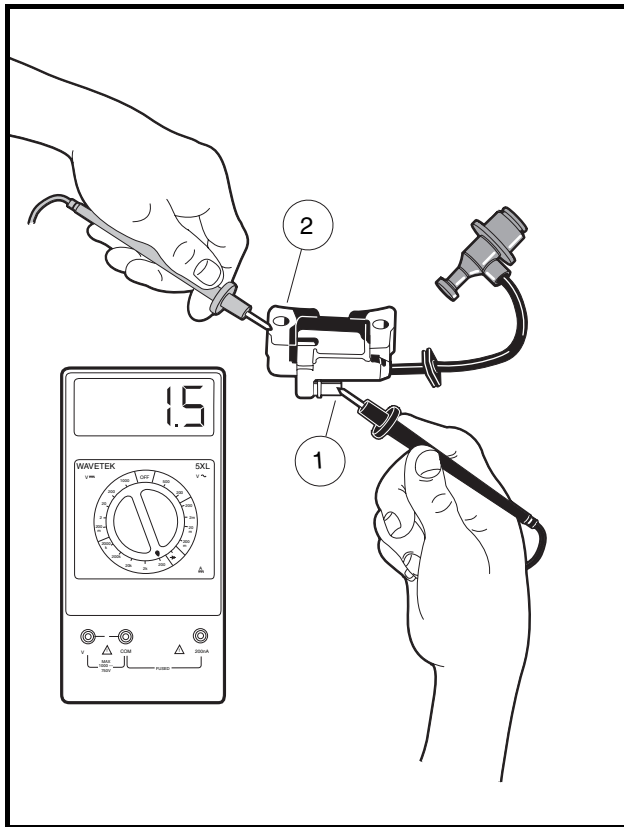

Figure 11-30 Primary Coil Resistance - Bench Test
- 2.1. Place the black (–) probe of the meter on the terminal on the ignition coil (1), and place the red (+) probe on the core (2) (**Figure 11-30, Page 11-27**).